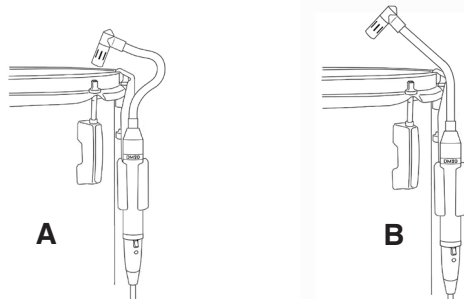

Figures 10-A and 10-B Miking the Top or Top & Bottom of a Snare
The DM20 has been optimized for miking toms and snare. With its frequency response of 50Hz to 20kHz it will provide a full and fat sound from your toms and a nice crisp sound from your snare. If you feel that there is too much low frequency response when miking a snare, use either a high-pass filter set somewhere between 60Hz and 100Hz or a low frequency equalizer (EQ) to attenuate (i.e. cut) a few dB in the area of 60Hz to 100Hz for the desired results. The DM20 can be used to mic either the top drumhead, bottom drumhead or both. Figure 10-A shows the DM20 placed over the top drumhead of a snare while Figure 10-B shows a snare drum with both the top and bottom heads miked.
The extended low frequency response of the DM20 DrumMic™ will provide a rich and full tom sound. You can mike either the top and/or bottom head of a tom with the DM20 in a similar configuration as on snare as shown above in Figure 10-B. You will notice in Figure 11-A that the microphone head is placed closer to the drum rim, while in Figure 11-B the microphone head is aimed toward the center of the drum head by changing the position of the gooseneck. Experiment with the mic head placement as the sound or tone can change with the mic head in various positions.